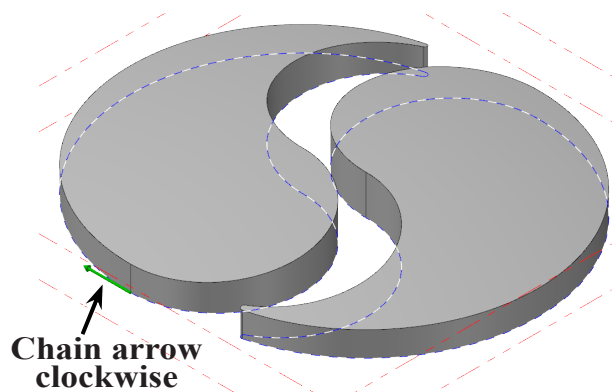

Fig. 84
Step 7. The chain arrow should point **clockwise** around the chain, **Fig. 84**. If chaining directions arrow is pointing in the opposite direction - click Reverse ,